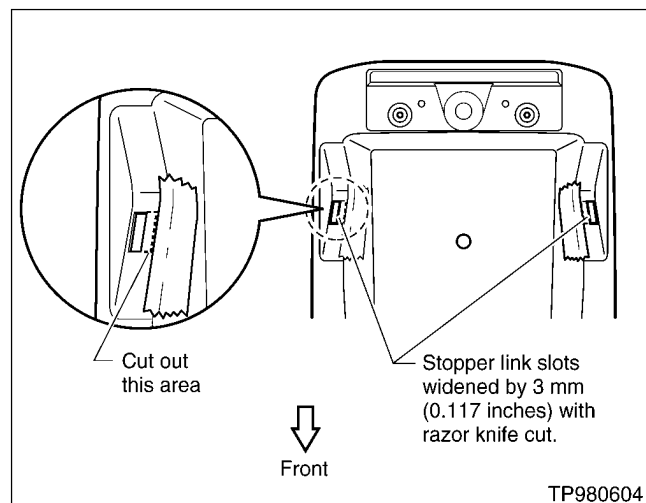

Figure 3
- B. Use the straight edge of the tape as a guide. Cut away the exposed plastic with a razor knife (see Figure 3).